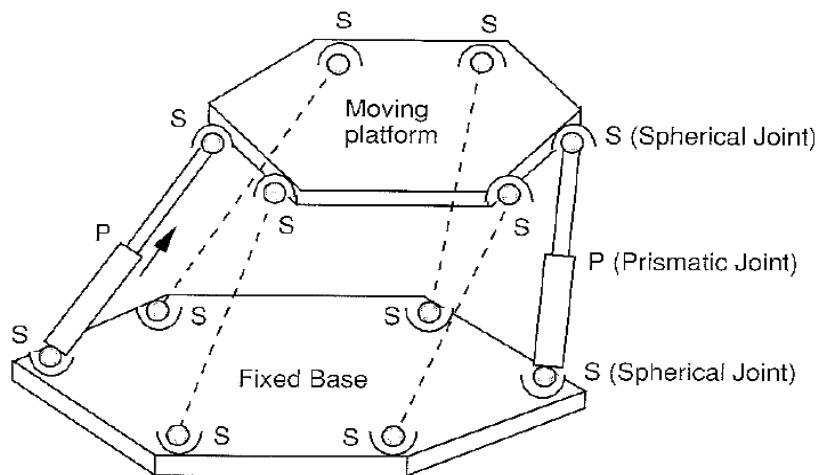

Fig.3 Stewart–Gough platform
- 16) A Stewart–Gough platform shown in **Fig.3** consists of: